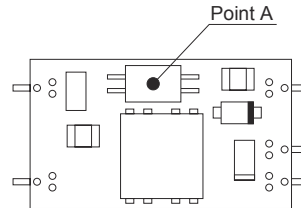

Fig.7.1 Temperature Measuring Point in the case of Forced Air Cooling
① SU1R5
■ In the case of forced air cooling (1m/s), please have sufficient ventilation to keep the temperature of point A in Fig.7.1 at 105°C or below.